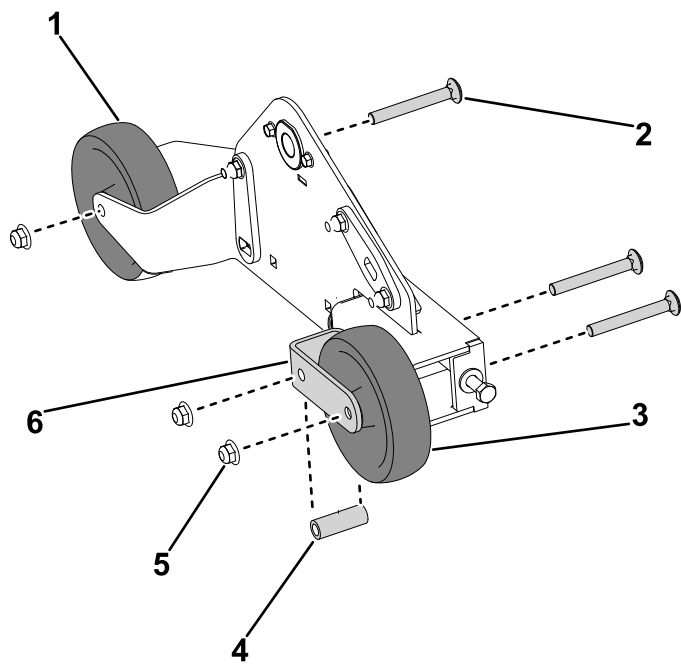

Figure 30
6. Install the retained bogey yoke to the track support, loosely secure with the carriage bolt (3/8 x 3 inch) and locknut (3/8 inch) (Figure 30).
7. Install the retained right bogey wheel to the bogey yoke and track support, loosely secure with the carriage bolt (3/8 x 3 inch), tensioner bushing, and locknut (3/8 inch) (Figure 30).
8. Install the left bogey wheel to the track support, secure with the carriage bolt (3/8 x 3 inch), tensioner bushing, and locknut (3/8 inch) (Figure 30).